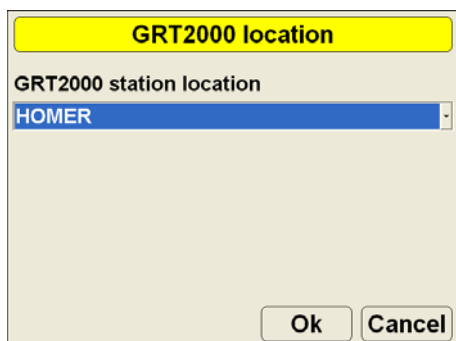

Figure 8-21. Select GRT-2000 Station Location (Control Point)
1. Tap **Topcon Logo ▶ Control ▶ GRT2000 location** and select the Control Point (station point) over which the GRT-2000 is installed (Figure 8-21).